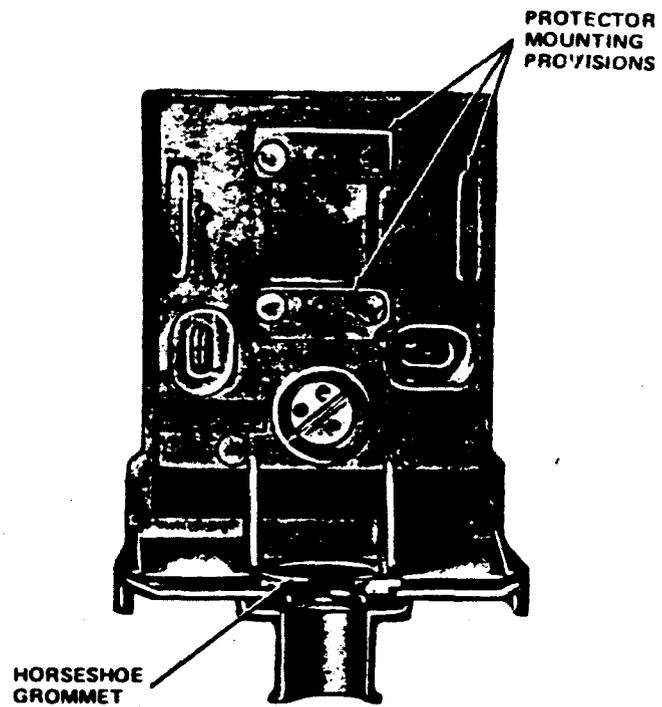

Figure 4. B2-400 Base
3.06 The B2-400 base (Figure 4) is an injection molded part with mounting provisions for protectors. It is also equipped with a horseshoe grommet for easy entry of the service wire, customer wire, and ground wire.